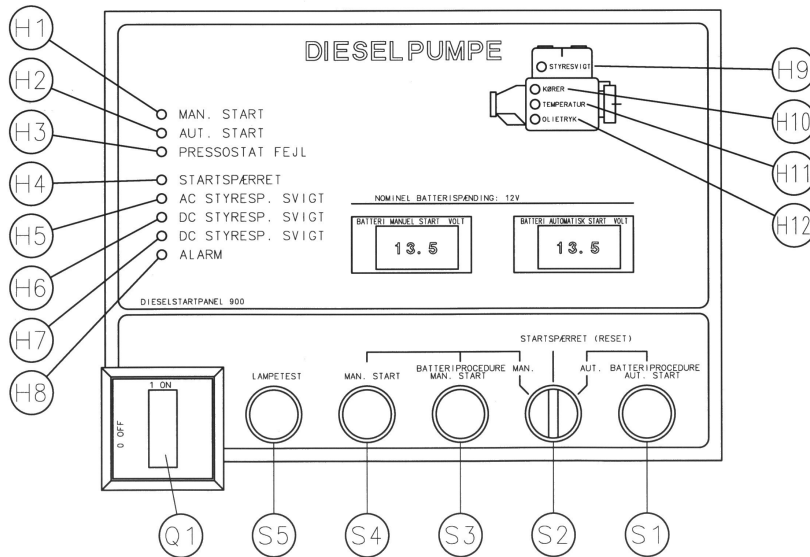

Figure 2: Lamps, indications and switches
4. OPERATION OF SPRINKLER SYSTEM (SEE FIGURE 2)